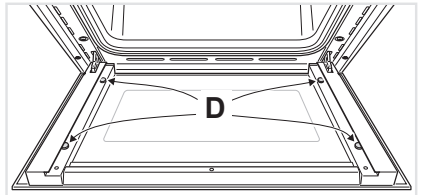

Fig. 28
- Check that the four rubber pads are in place (**D** in fig. 28).